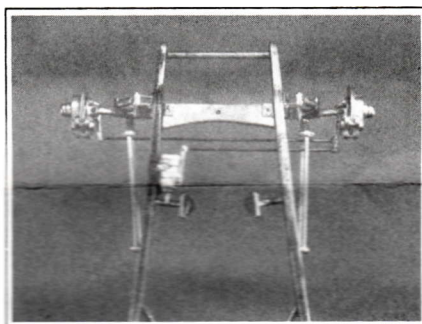

Figure 8
I. Drill a .032" (No. 67) hole through the rod end on the pittman arm, and glue it to the steering box. Glue the steering box/pittman arm to the inside of the left hand frame rail so that the rod end on the pittman arm is aligned across the car with the remaining rod end on the right hand spindle. Glue a 1/32" brass rod drag link between them. Figure 8 shows the assembled steering components.